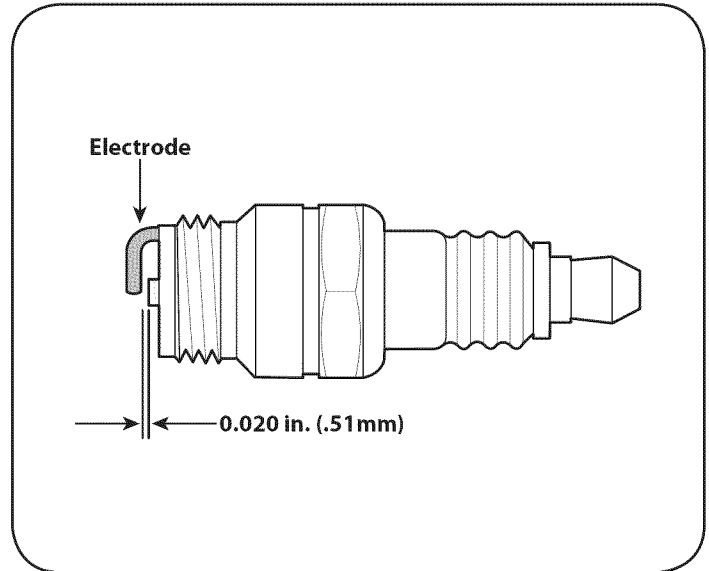

Figure 13
3. Check the gap with a wire gauge. See Figure 13. Spark plug gap should be 0.020 in (0.51 mm). If necessary, reset the gap.